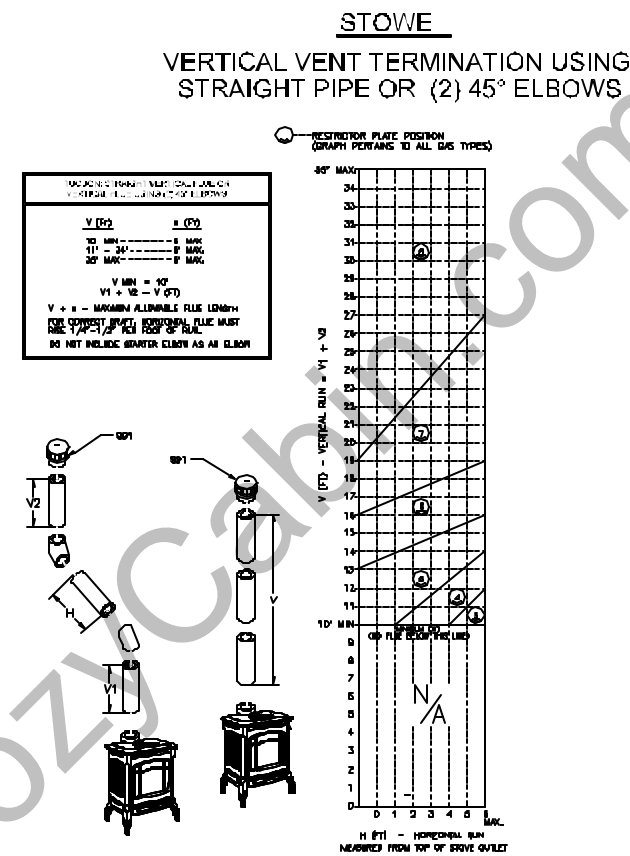
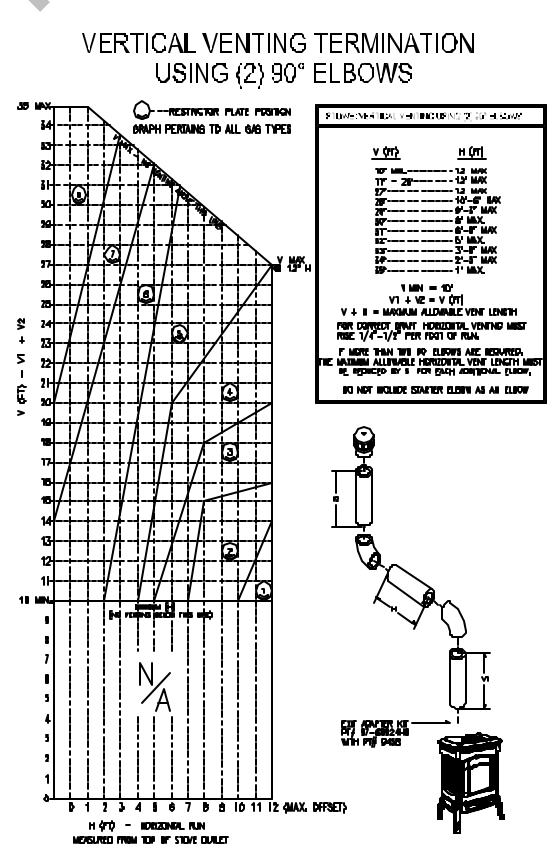

FIGURE 2 VERTICAL TERMINATIONS USING STRAIGHT PIPE
FIGURE 3 VERTICAL TERMINATIONS USING (2) 90° ELBOWS
The Stowe cannot be vented jointly with any other solid fuel or gas appliance. It must be vented directly to the outside of the building using a proper termination as listed in the manual. The only type of venting pipe approved for use with your Stowe Direct Vent stove is Simpson Dura-Vent's GS AmeriVent Direct, or Secure Vent systems. The venting configurations are shown in Figures 2 - 6. After determining the venting configuration for your stove, select the Simpson Dura Vent system that will accommodate your installation.
### APPROVED VERTICAL TERMINATION VENTING CONFIGURATIONS WITH NO ELBOWS OR (2) 45° OFFSETS (FIGURE 2), AND (2) 90° ELBOWS (FIGURE 3)
- 6' maximum offset (refer to Figure 2)
- 12' maximum offset (refer to Figure 3)
- The termination must fall within the outline shown in Figures 2 & 3. Use the indicated restriction plate position. The restriction Plate part # is 5950-922.